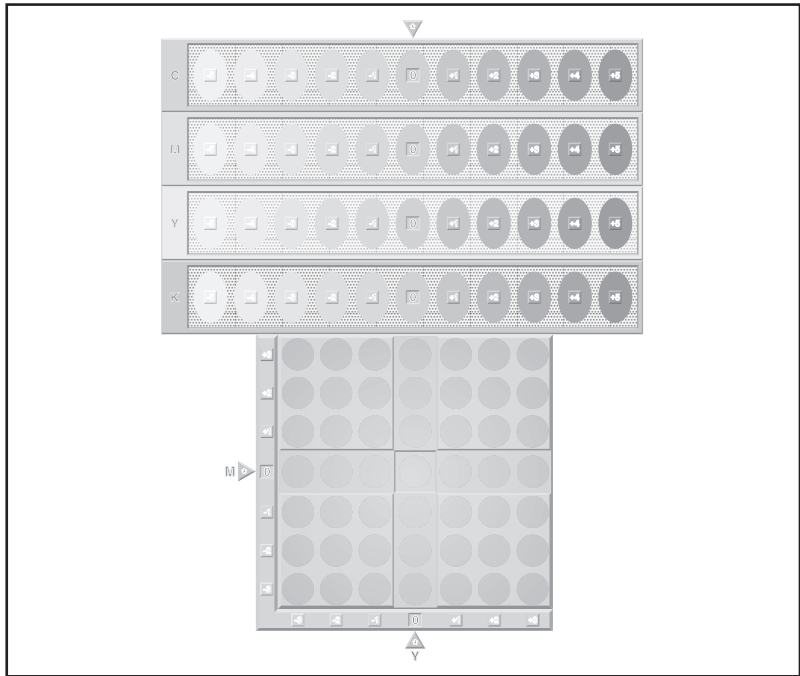

Figure 4-1 Color Balance Calibration Page
- 3 Press **SELECT** to print the color balance calibration page. The page consists of four color bars (cyan, magenta, yellow, and black) and a box containing gray balance circles (see figure 4-1). The factory default setting for each color is zero. The range of settings is -5 to +5.
Step 2: Adjust the cyan (C) density setting.
Examine the cyan density bar (C) on the color balance calibration page (see figure 4-1) from a distance of 2 meters (6 ft). If the center oval matches the background pattern more than the other ovals, the cyan density does not need to be adjusted and you should continue on to the magenta (M) setting. If an oval left of center or right of center matches the background pattern more than the center oval, use the following steps to enter the number:
Step 3: Adjust the magenta (M) density setting.
Examine the gray balance circles in the box at the bottom of the color balance calibration page (see figure 4-1). If the circle in the center most closely matches the background pattern, then the gray balance does not need to be adjusted. If the circle does not match, use the following steps to adjust gray balance.